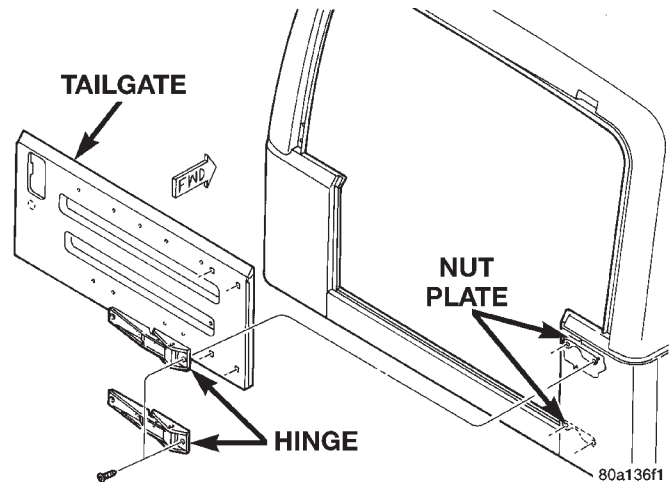

Fig. 82 Tailgate Hinge
- (1) Using a wax pencil, mark the position of the hinge on the body.
- (2) Remove the screws attaching the hinge to the body and tailgate (Fig. 82).
- (3) Separate the hinge from the tailgate.